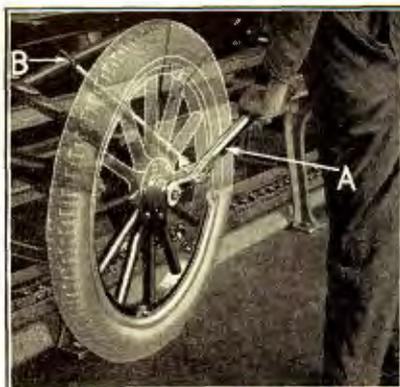
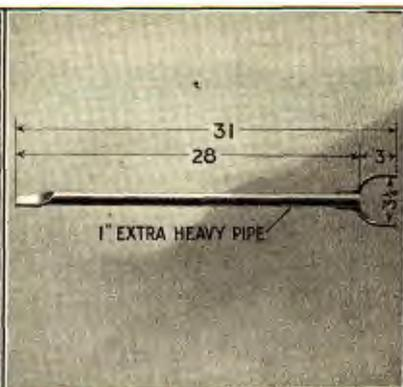

Fig. 71
Fig. 72
- (d) Tightening rear wheels on axle shafts is an operation requiring special attention. If the axle shaft nut is not draw down tightly, the wheel hub will clash against the key on the shaft, ultimately resulting in breakage of the shaft either from crystallization or because of the chipping off of small pieces of steel, which work around the shaft, eventually cutting both shaft and hub. Owing to the importance of this operation, hexagon head box shaped wrenches, having handles 20" and 25" long, should be used in tightening axle shaft nuts on both car and truck (See "A" Fig. 71). Wrenches of this description can be obtained from nearest Ford Branch. The wrench used on the car is listed under symbol No. 5-Z-248, while the one used on the truck is listed under symbol No. 5-Z-591. When wheels are installed while car is on assembly line, a bar, details of which are shown in Fig. 72, can be used to prevent the wheels from turning. The forked end of bar is placed over drive shaft tube as shown at "B" Fig. 71 with the flat end of bar resting on spoke of wheel.